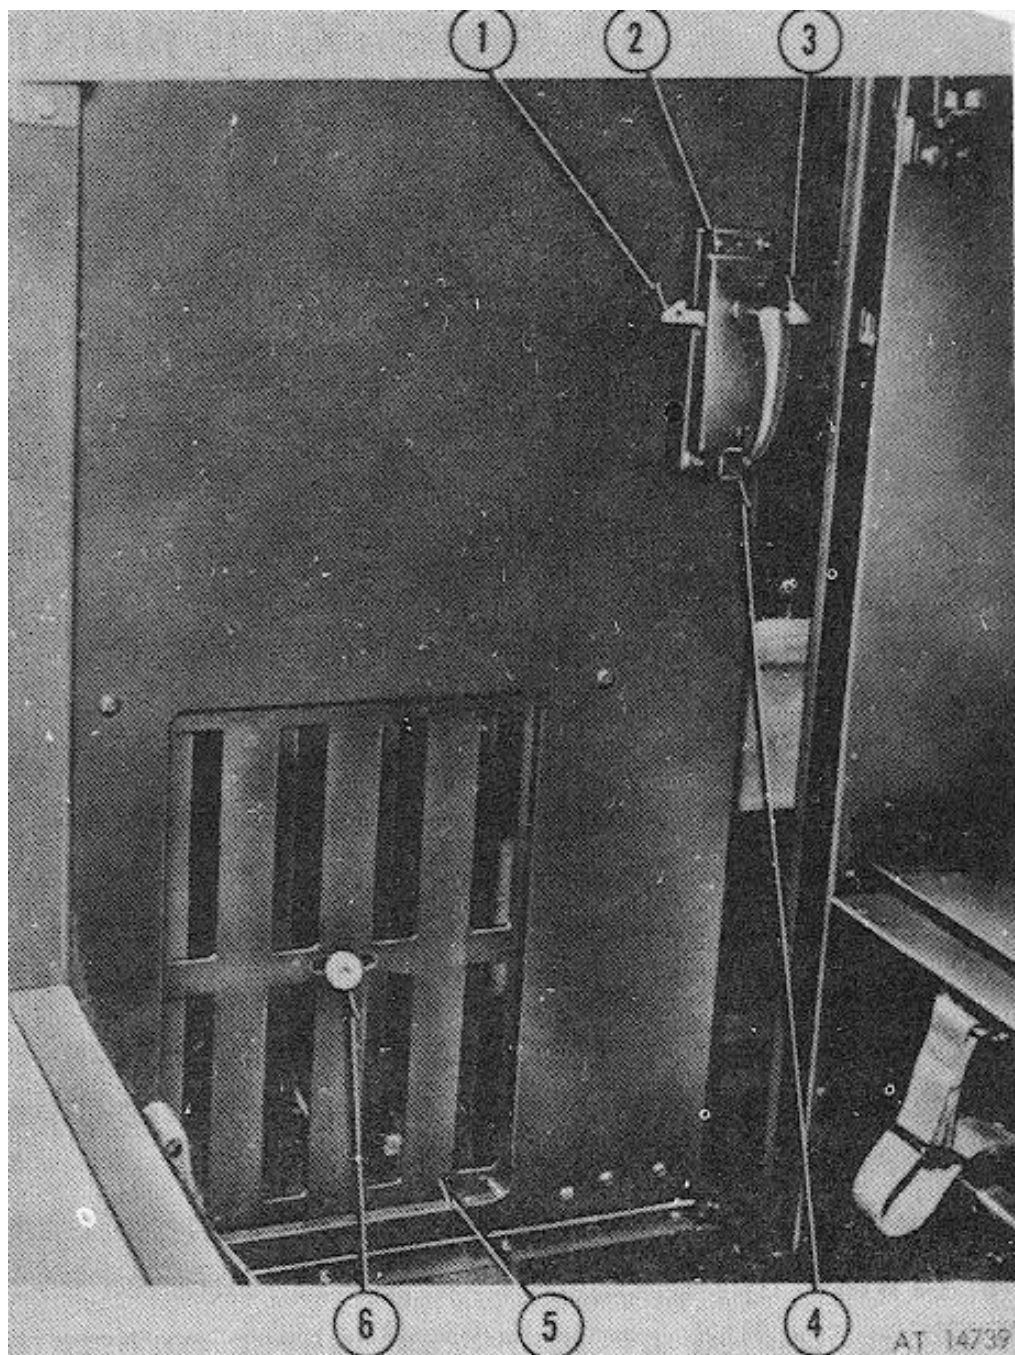

Figure 2-94. Bulkhead door.
(1) Straightening tailgate.
(2) Straightening cargo sides.
(3) Straightening tailgate latching brackets.
(4) Adjusting hinges.
f. Bulkhead Door Adjustment (Ambulance). (Fig 2-94)
(1) The bulkhead door is a sliding door on the inside of the cab. The double catch on the door engages on the right in the closed position or on the left in the open position.
(2) Adjust the bulkhead door by raising or lowering the two nylon roller brackets located at bottom of door.
(3) Loosen the nuts securing the brackets to the door, and adjust brackets upward or downward until door slides freely in the track. Hold this adjustment, then tighten the nuts.
(4) To remove the bulkhead door, lift up and pull out from the bottom when door is in the closed position, unlatched.